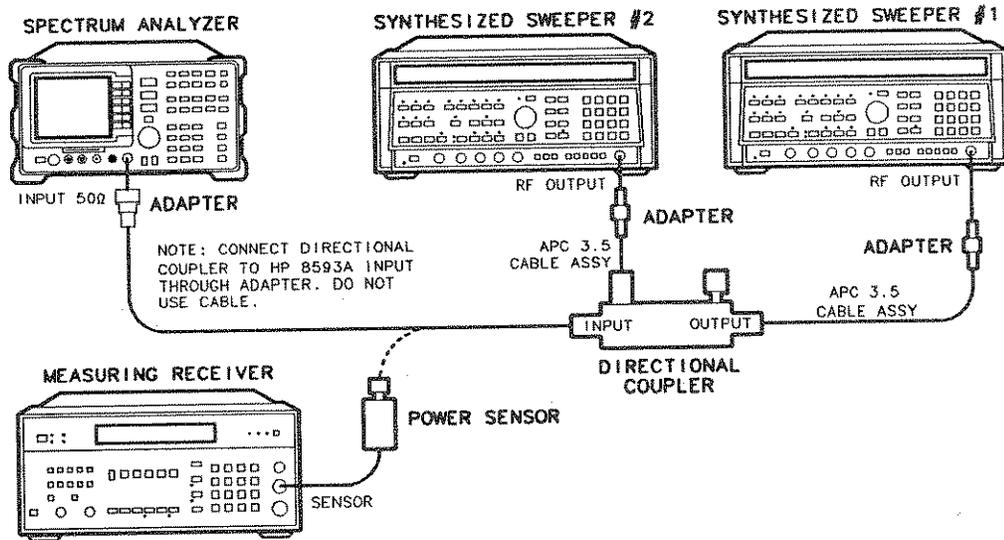

Figure 4-23. Gain Compression Test Setup
2. Connect the equipment as shown in Figure 4-23, with the output of the directional coupler connected to the power sensor. *Option 026:* Connect the directional coupler to the analyzer input directly.